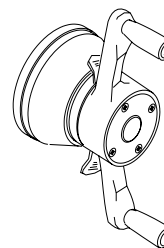

Figure 16
4. Tighten Quick-nut securely with both hands. To operate the Quick-nut pull the lock-unlock lever (Figure 16). Slide the Quick-nut on the threaded shaft. When in contact with the rim, release the unlock lever and tighten firmly. To assist in centering the wheel properly, rotate the wheel on the shaft while tightening the quick nut.